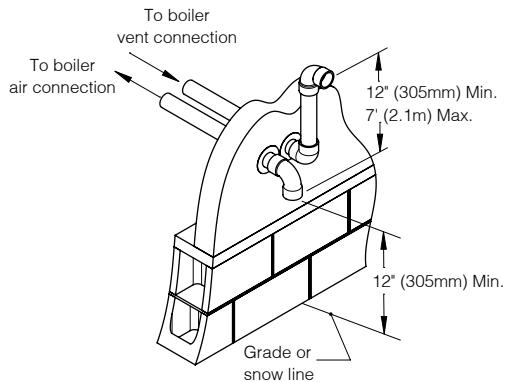

Figure 8-2: Fittings Terminal
1. Vent terminates outside building in elbow, coupling, or end pipe pointing outward away from wall and air terminal. Air terminates outside building in downward-facing elbow. Air terminal may be to left or right of vent terminal. See Figures 8-2 and 8-4.